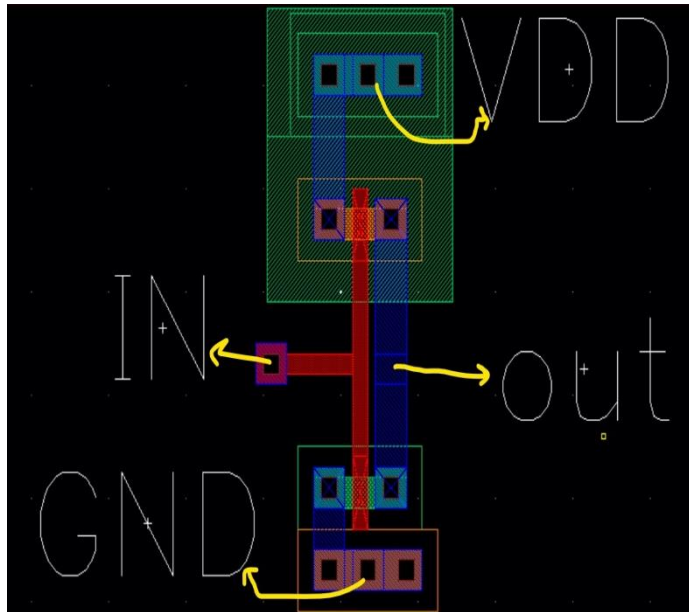

Figure 14. Inverter layout
- After completing the above steps, your layout should resemble an example layout given in Figure 14.
- Please note that the substrate of each transistor is certainly connected to VDD or GND through contacts, as shown in Figure 14.